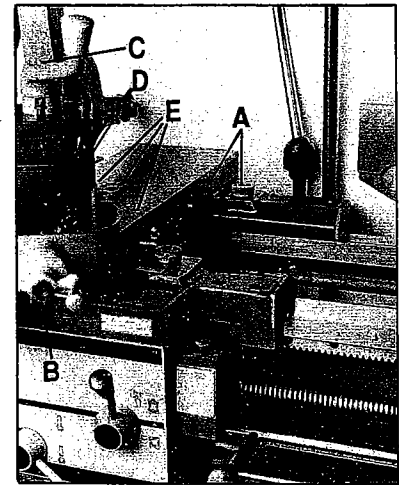

Fig. 7
6. **Saddle** - Remove two caps (A, Fig. 7) and keep reservoirs full with 30W oil to lubricate ways on a daily basis. Lubricate ball oiler (B, Fig. 7) on handwheel shaft daily.
7. **Compound Rest** - lubricate one oil ball on top of handle (C, Fig. 7) with 30W machine oil once daily. Lubricate two ball oilers (D, Fig. 7) on top of compound slide with 30W machine oil once daily.
8. **Cross Slide** - lubricate three oil balls (E, Fig. 7) with 30W machine oil once daily.